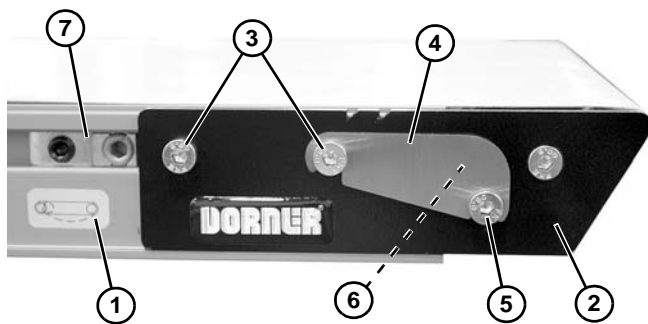

Figure 86
1. On tension end of the conveyor, identified with a  label (**Figure 86, item 1**), adjust head plate assembly (**Figure 86, item 2**):
- a. On both sides of conveyor, loosen fastening screws (**Figure 86, item 3**).
- b. If equipped with dust covers (**Figure 86, item 4**), loosen screw (**Figure 86, item 5**) and remove dust cover on both sides of conveyor. Tighten screw (**Figure 86, item 5**).
- c. Rotate pinion gear (**Figure 86, item 6**) to adjust head plate assembly.
3. After adjusting proper tensioning, tighten fastening screws (**Figure 86, item 3**) on both sides of conveyor to 60 in-lb (7 Nm).
4. If equipped, install dust covers (**Figure 86, item 4**).
5. If equipped with cam tracking assemblies (**Figure 86, item 7**) position against head plates and adjust belt tracking. Refer to “Conveyor Belt Tracking”, next section.